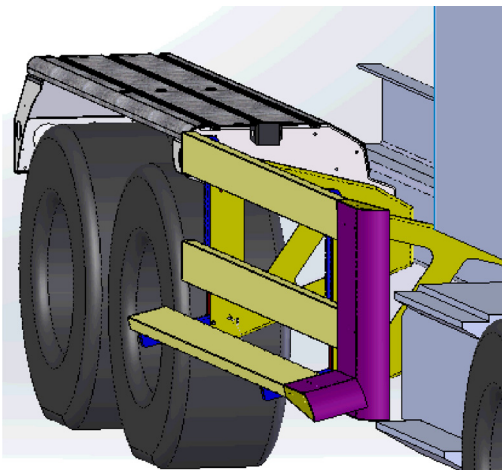

Figure 144
3. Install each pin through the open holes in each bottom rail and gusset (Figure 144).